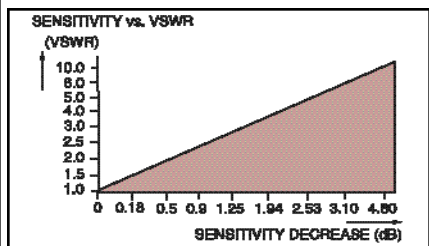

figure 3: Sensitivity vs. VSWR
3. For BER of 10⁻⁵ @ 4800 baud.Sensitivity is affected by antenna SWR.See figure 3.